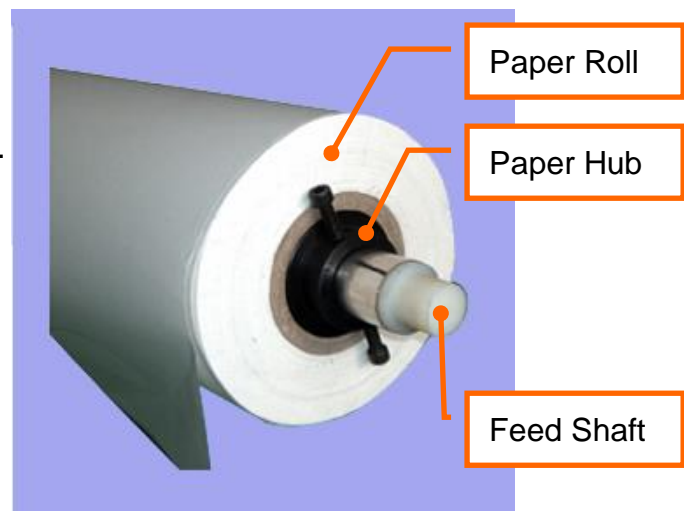

Figure 4-1
Step 3 Install the other paper hub onto the other end of paper roll and set it firmly (Figure 4-1).